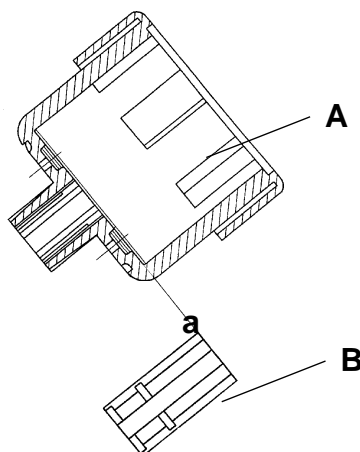

Fig. 10
- ▶ Insert the adapters (B) into the external magnetic rotor (A) to depth "a" (see Fig. 10).
- ▶ Place the clamping piece (C) over the external magnetic rotor and the adapters (the clamping piece must be positioned with the brass inserts facing the external magnetic rotor while at the same time being as far from it as possible).